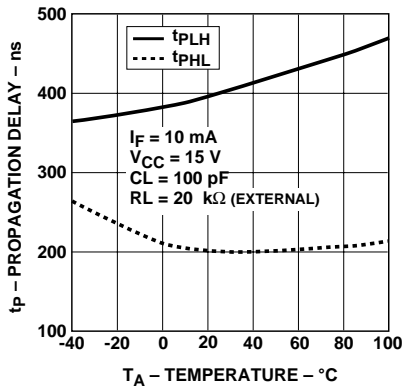

Figure 8. Propagation Delay with External 20 kΩ RL vs. Temperature.
- Due to tolerance of the internal resistor, and since propagation delay is dependent on the load resistor value, performance can be improved by using an external  $20 \text{ k}\Omega$  1% load resistor. For more information on how propagation delay varies with load resistance, see Figure 8.